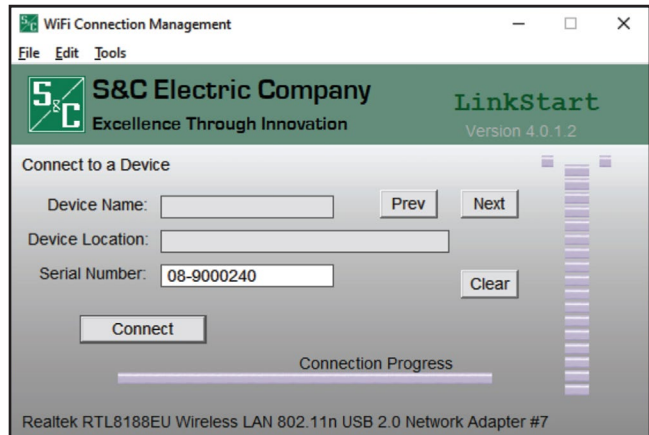

Figure 22. The *Wi-Fi Connection Management* screen.
- STEP 1.** In the Windows® 10 **Start** menu, select *Start>Programs>S&C Electric> LinkStart> LinkStart V4*. The *Wi-Fi Connection Management* screen will open. See Figure 22.
- STEP 2.** Enter the serial number of the IntelliRupter fault interrupter and click on the **Connect** button. See Figure 22.